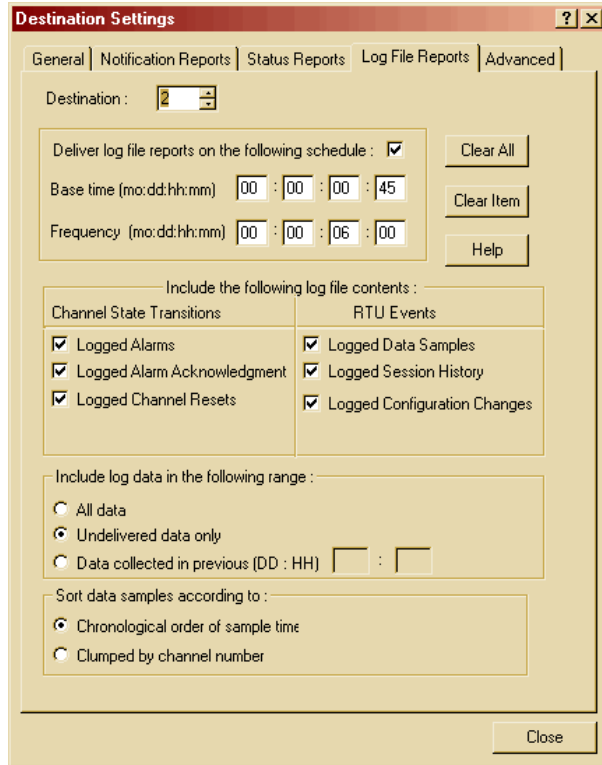

Figure 25: Destination Settings, Log File Reports
23. Select the **Log File Reports** tab for Destination #2 and configure it as shown in Figure 25. In this example, the configuration will send a Log File to the FAX machine starting at 45 minutes after Midnight and every 6 hours thereafter. Since we selected **Undelivered data only**, the data that had not previously been delivered will be in the report.